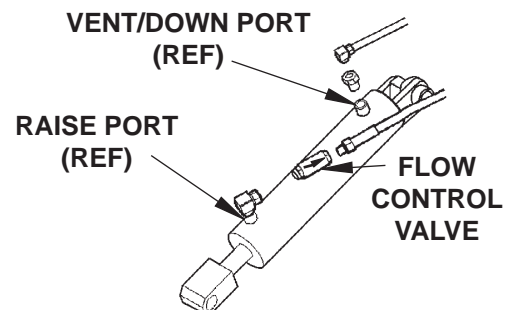

FIG. 51-3
7. Check if flow control valve (**FIG. 51-3**) is pointing to the direction of restricted fluid flow (back toward pump). If required, remove flow control valve and install it correctly (**FIG. 51-3**).